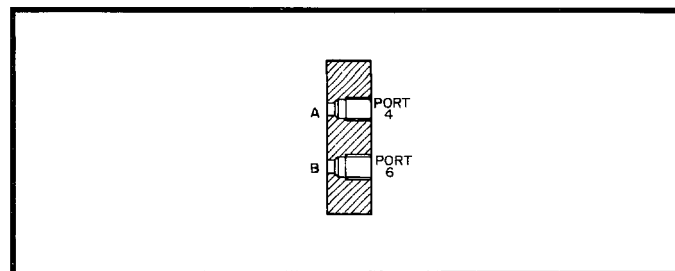

Figure 4. Type "P" Plain Control (508737D).
**1. Plain Control.** Refer to figures 4, 2 and 3. Pressure at Port 6 (Port 4 to drain) closes main prefill plunger and pressure at Port 4 (Port 6 to drain) opens it.